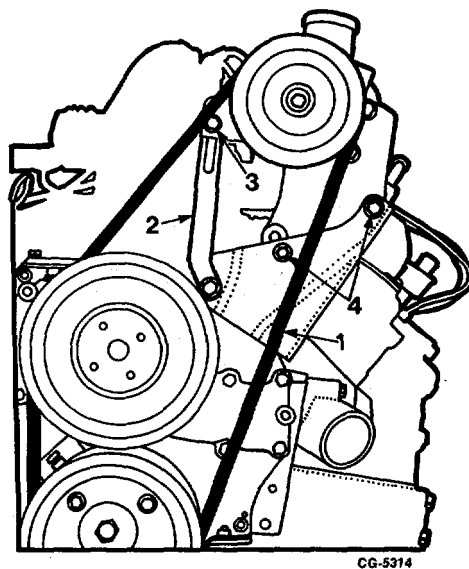

Fig. 21 Removing Power Steering V-Belt
17. Loosen power steering adjusting strap bolt and two bracket bolts to facilitate removing V-belt, Figure 21.